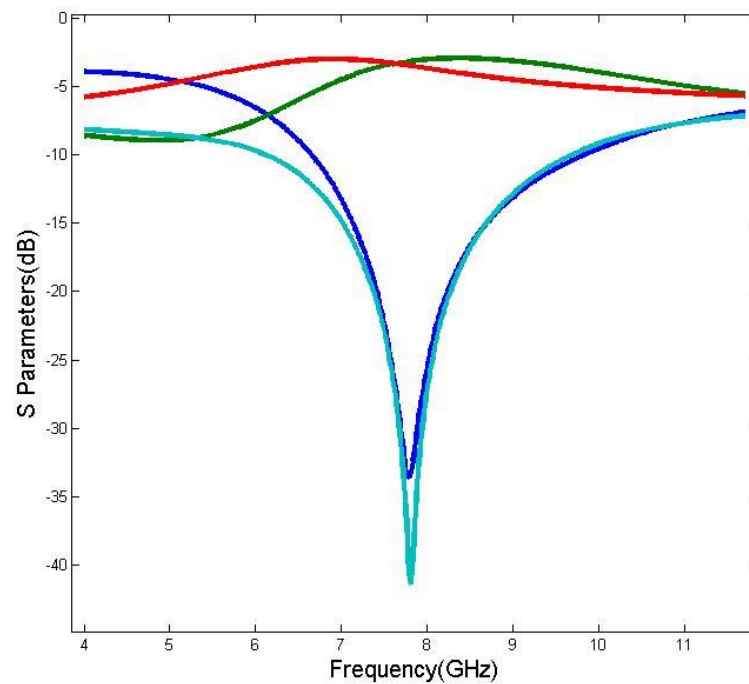

Fig.2. Magnitude Plot of S11 Parameters
- A branch line coupler is designed on an Rogers RO4003C substrate having dielectric constant 3.55 and dielectric loss tangent 0.0027 using HFSS and its characteristics are studied through Fig.2
- These are clearly seen in Fig.2. The reflection curve remains below -30 dB indicating good matching at the resonant frequency 7.8 GHz.